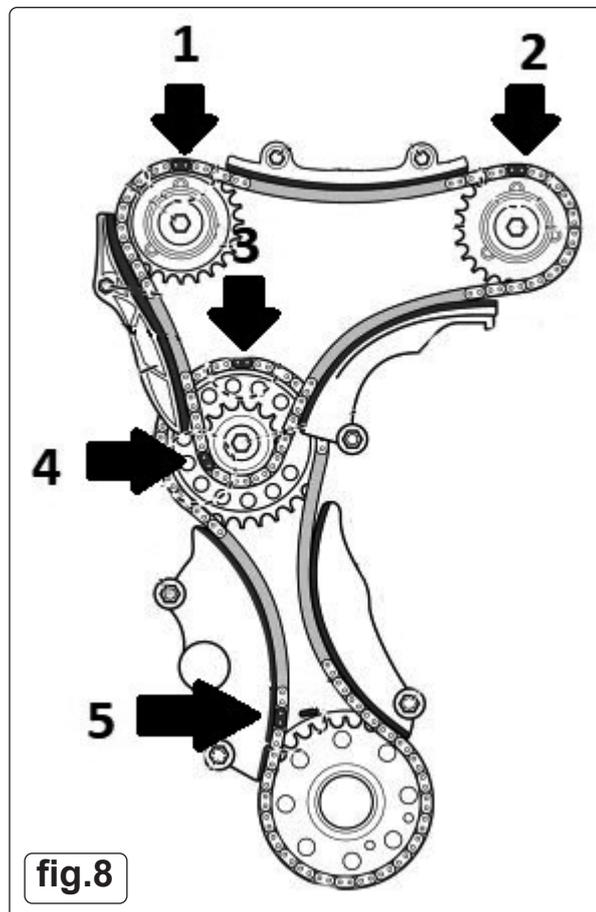

fig.8
- 5.3.2. Turn crankshaft clockwise until timing marks positioned as shown 1,2,3,4 & 5. (fig.8)